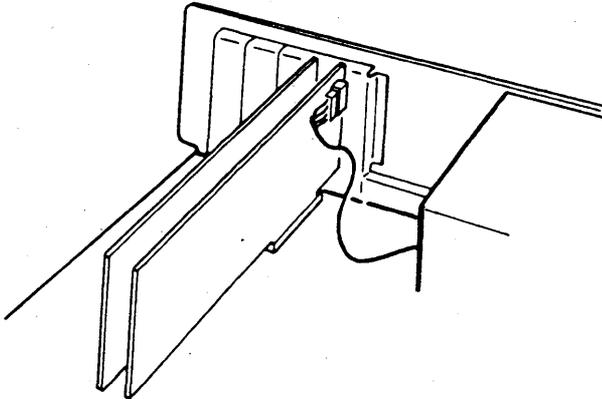

Figure 16: Applying Power to the Tape Controller
7. **FOR EXTERNAL TAPE DRIVES WITHOUT POWER SUPPLY ONLY:** Locate an available power lead (twisted wire cable with plastic four-pin connector) inside your system and apply it to the tape controller card as shown in Figure 16: